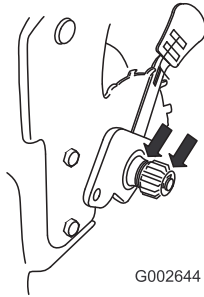

Figure 41
- Apply a lubricating oil to the inner and outer sides of the gear as shown in Figure 41.